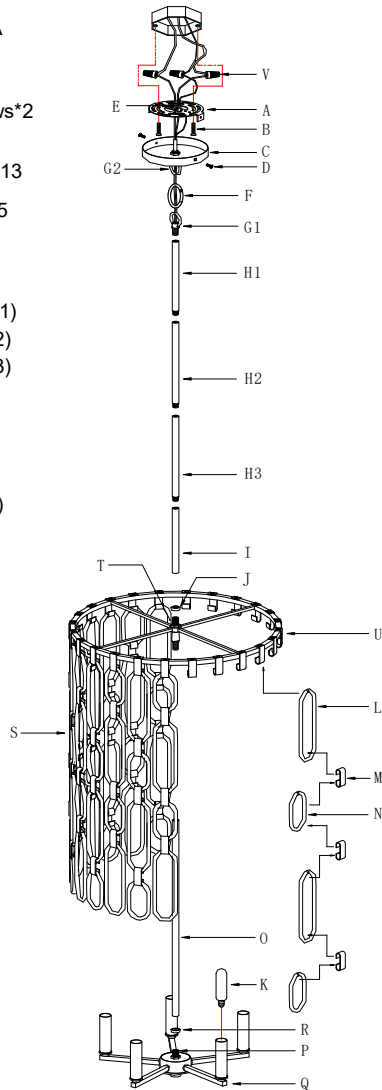

Fig. 2
### CONNECTING THE WIRES (Fig. 2)
8. Connect the electrical wires as shown in (Fig.2), making sure that all wire connectors are secured. If your junction box has a ground wire (green or bare copper), connect the fixture's ground wire to it. Otherwise, connect the fixture's ground wire directly to circular strap (A) using the ground screw provided.